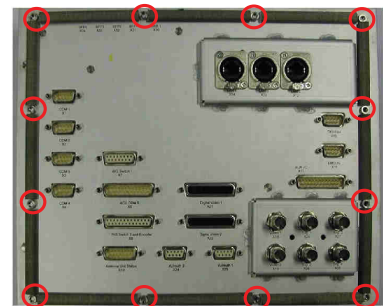

Fig. 10.18 12 screws
- 6 From the bottom of the cabinet, remove 12 Torx T20 screws holding the External I/O board (tools 1/8). The position of the screws is shown in Fig. 10.18 \(p. 139\).